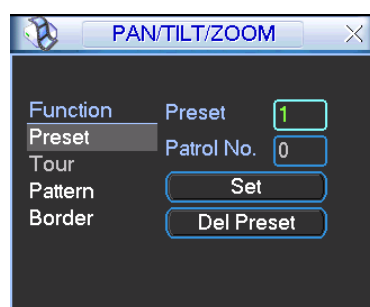
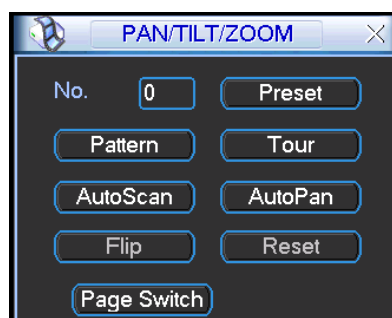
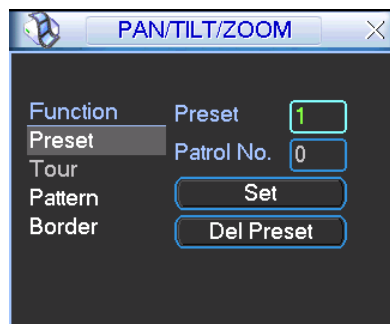

Figure 4-38
Figure 4-39
Figure 4-40
In Figure 4-35, please click the “set” button. The interface is shown as below. See Figure 4-38.
In Figure 4-35, click page switch button, the interface is shown as in Figure 4-39.
- The following setups are usually operated in the Figure 4-35, Figure 4-38 and Figure 4-39,
In Figure 4-38, click preset button and input preset number. The interface is shown as in Figure 4-40.
In Figure 4-39, please input preset number in the No. blank, and click preset button.
In Figure 4-38, click patrol button. The interface is shown as in Figure 4-41. Input preset number and add this preset to a patrol (tour). For each patrol (tour), you can input max 80 presets.
In Figure 4-38, input patrol (tour) number in the No. blank and click patrol button
In Figure 4-38, click pattern button and then click "begin" button. The interface is shown as in Figure 4-38. Then you can go to Figure 4-35 to modify zoom, focus, and iris.
In Figure 4-39, input mode value in the No. blank, and click pattern button.
In Figure 4-38, click border button. The interface is shown as in Figure 4-43.
In Figure 4-39, click "Auto Scan" button, the system begins auto scan. Correspondingly, the auto scan button becomes Stop button. Click stop button to terminate scan operation.
In Figure 4-39, click page switch button, you can see an interface is shown as below. See Figure 44 . Here you can set auxiliary function. The aux value has relation ship with the Aux button of the decoder.